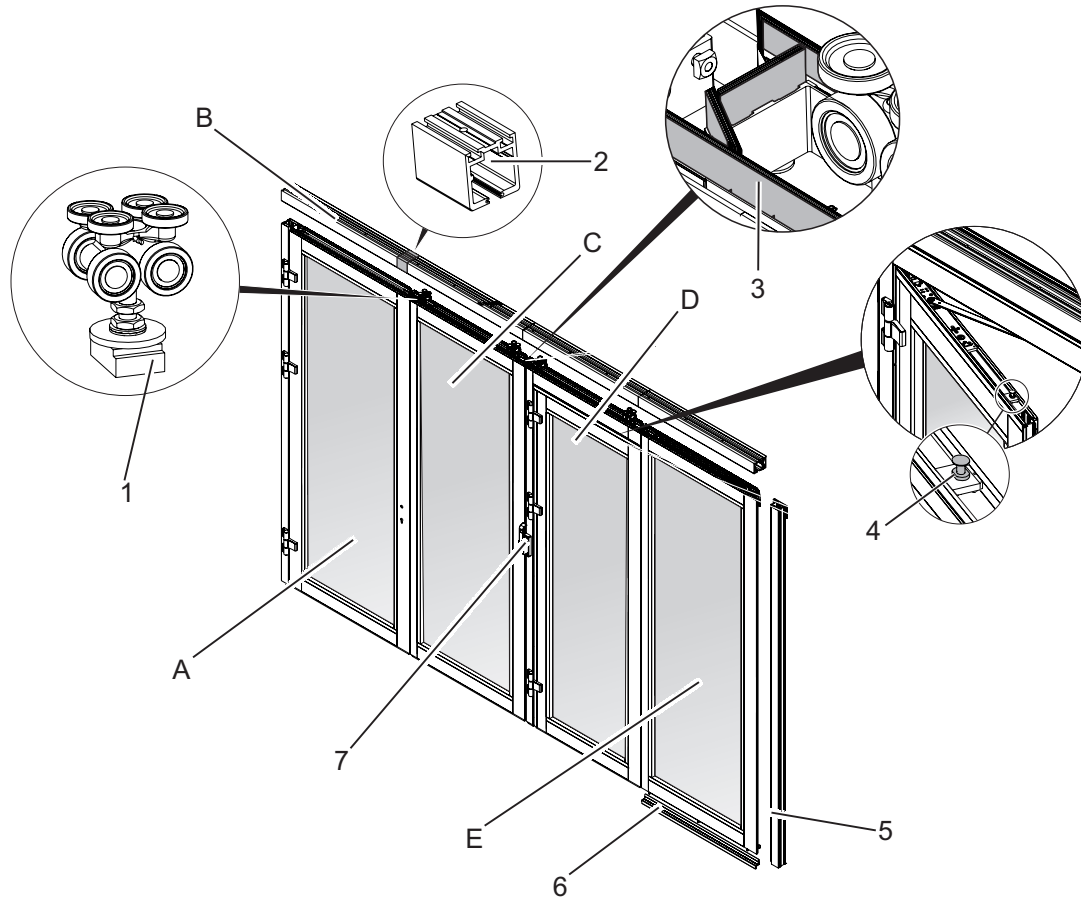

Fig. 1: Exemplary assembly
- F Customized stacking area (not shown in Fig. 1)